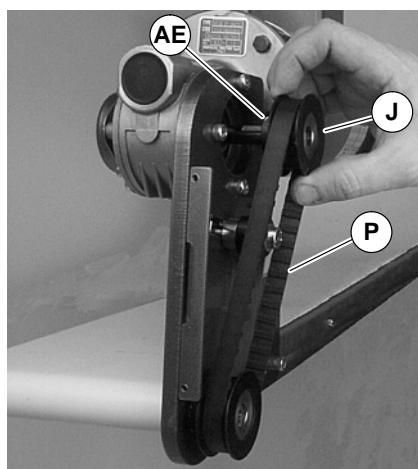

Figure 16
**NOTE:** If drive pulley (J of Figure 16) is replaced, wrap timing belt around drive pulley and complete step 3.
3. Loosen drive pulley set screws (AE of Figure 16). Remove drive pulley (J) and timing belt (P).
**NOTE:** Drive pulley (J of Figure 16) is removed. Wrap timing belt around drive pulley and complete step 14.